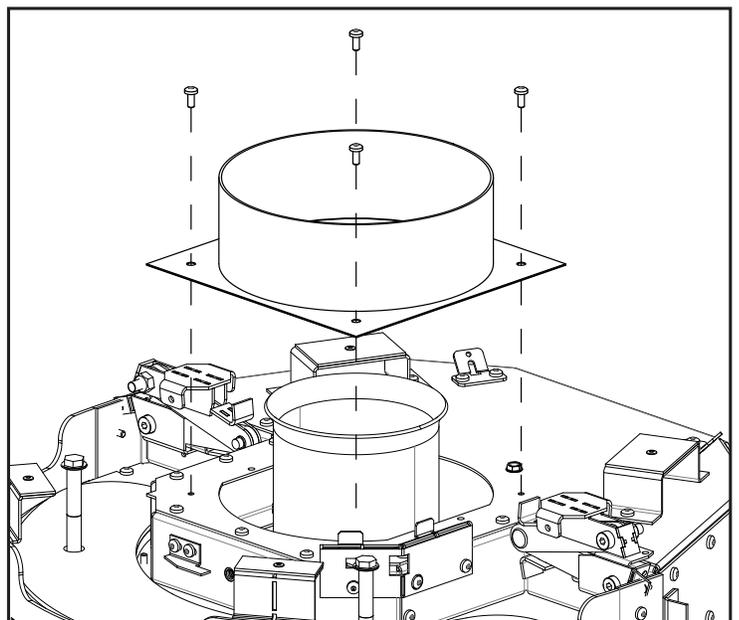

Figure 63: Vent Adapter Removal
7. Remove the vent adapter from the top of the unit by removing the four (4) T20 screws (see Figure 63). Be delicate with the gasket, you will be reusing this.